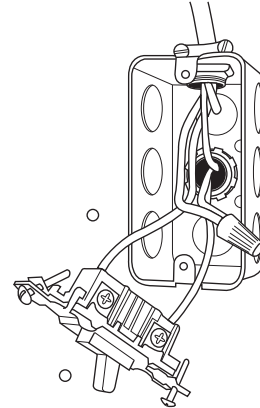

Fig. 25 – Field-Supplied Electrical Box on Furnace Casing ^{A10141}
- Route furnace power wires through holes in casing and electrical box and into electrical box, see Fig. 25.